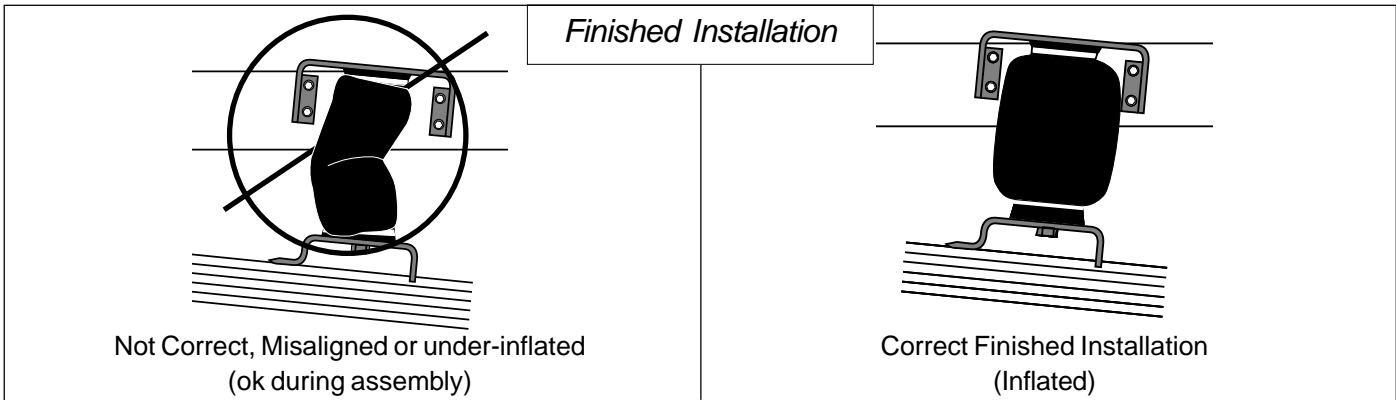

Figure 10
- IMPORTANT:** With the bottom still loose, inflate the air spring to approximately 10 p.s.i. By using the slotted adjustments, center the air spring so that it is in line with the upper and lower bracket and that there is a symmetrical cushion of air around the lower pedestal of the air spring to prevent side load wear (Figure 10). Air spring diameter grows to 4.6" at maximum inflation, check to be sure there is sufficient clearance around the air spring when it is inflated. Tighten the lower air spring mounting bolt to 10 ft-lbs.